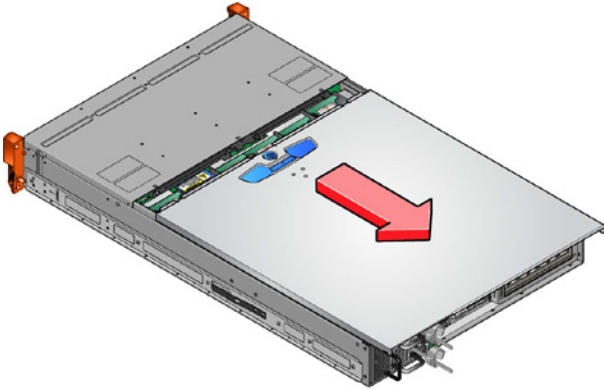

Figure 5: Removing the Enclosure Cover
1. Release the enclosure top cover by turning the lock mechanism to the 'Unlocked' position and slide the cover back until it stops (see Figure 5).